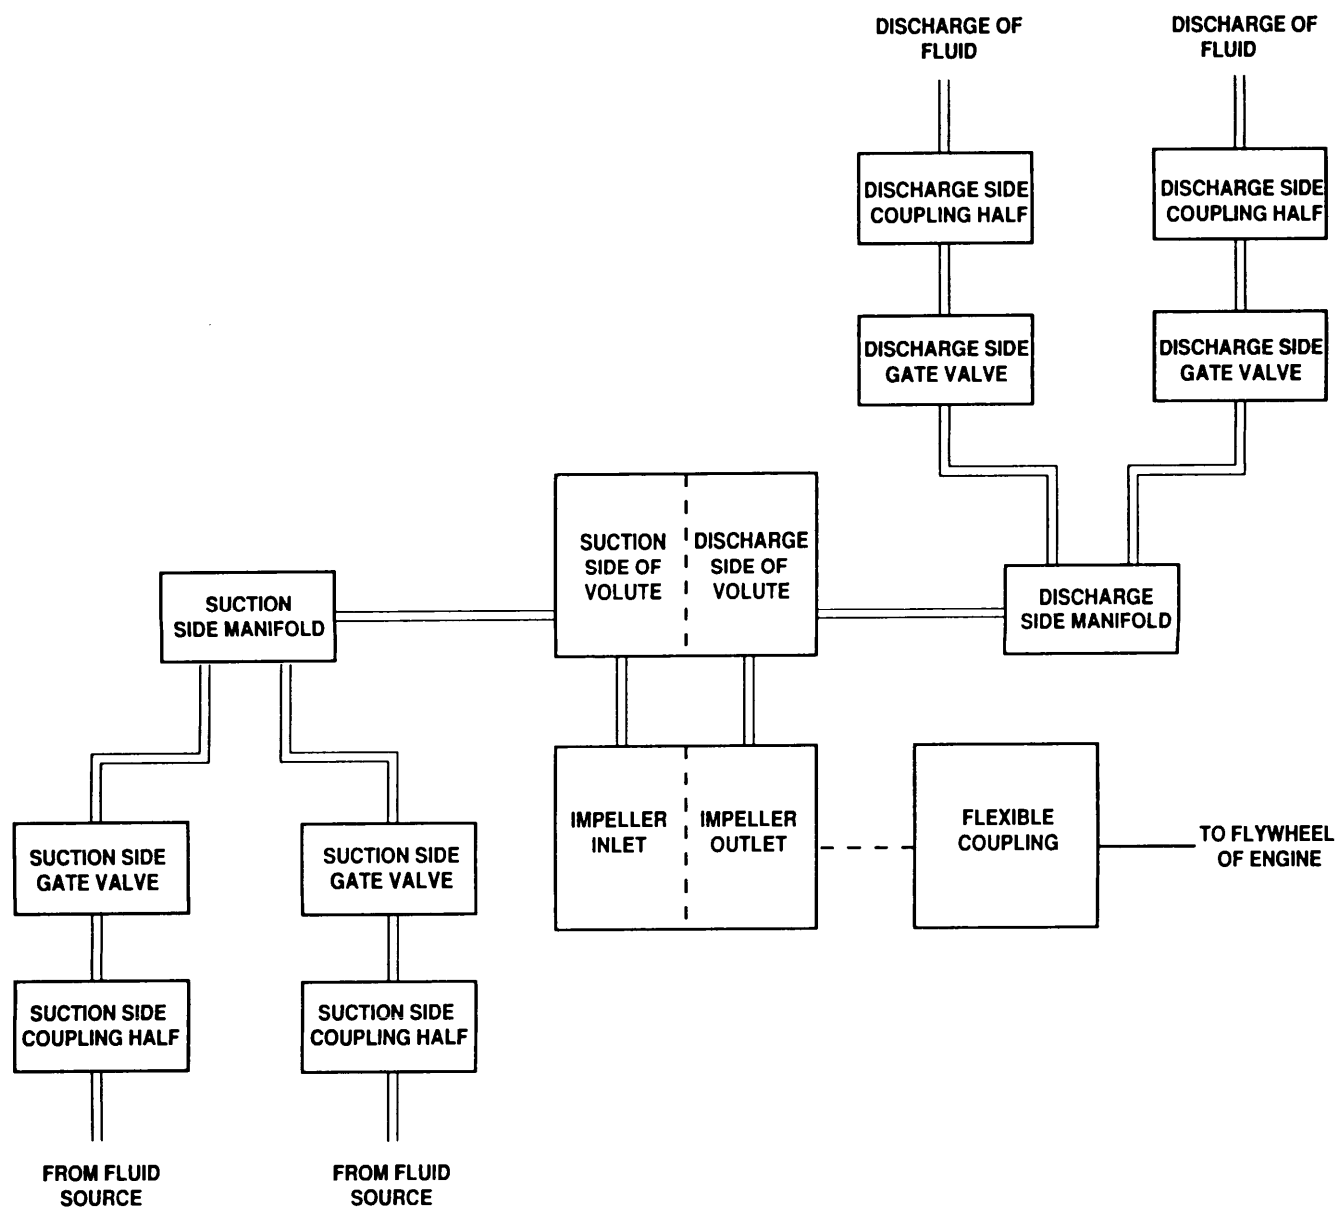

Figure 1-11. Pump Assembly Functional Block Diagram.
1.14.2.8 Pump Assembly. The pump assembly transfers fluid from one point to another point. Figure 1-11 is a functional diagram of the pump assembly. The fluid is brought into the 350 GPM pump via the suction section. The suction section provides two suction inputs. Each suction input has a valve that controls the size of opening to the suction side of the pump. In addition, each suction input has a coupling half to connect to the fluid source. Both suction inputs are connected to the suction manifold. The suction manifold is connected to the suction side of the volute. The suction section consists of two coupling halves, two gate valves, and the suction manifold.